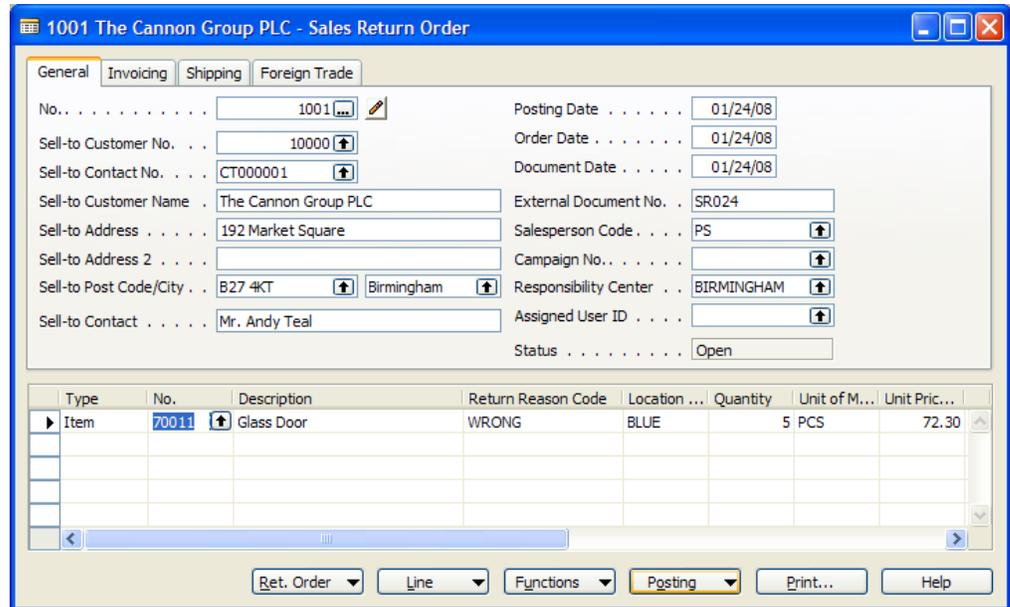

FIGURE 9-1: SALES RETURN ORDER WINDOW
The completed sales return order for the return of wrongly ordered item 70011 now looks as shown in Figure 9-1.